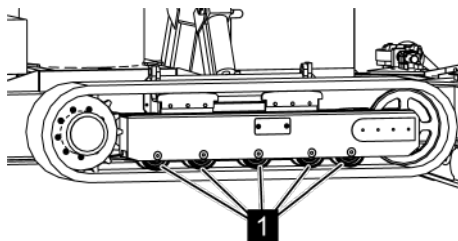

Fig. 155: Lid and cover
- 2.** Ensure that the rollers (Fig. 155/1) can be turned by hand.